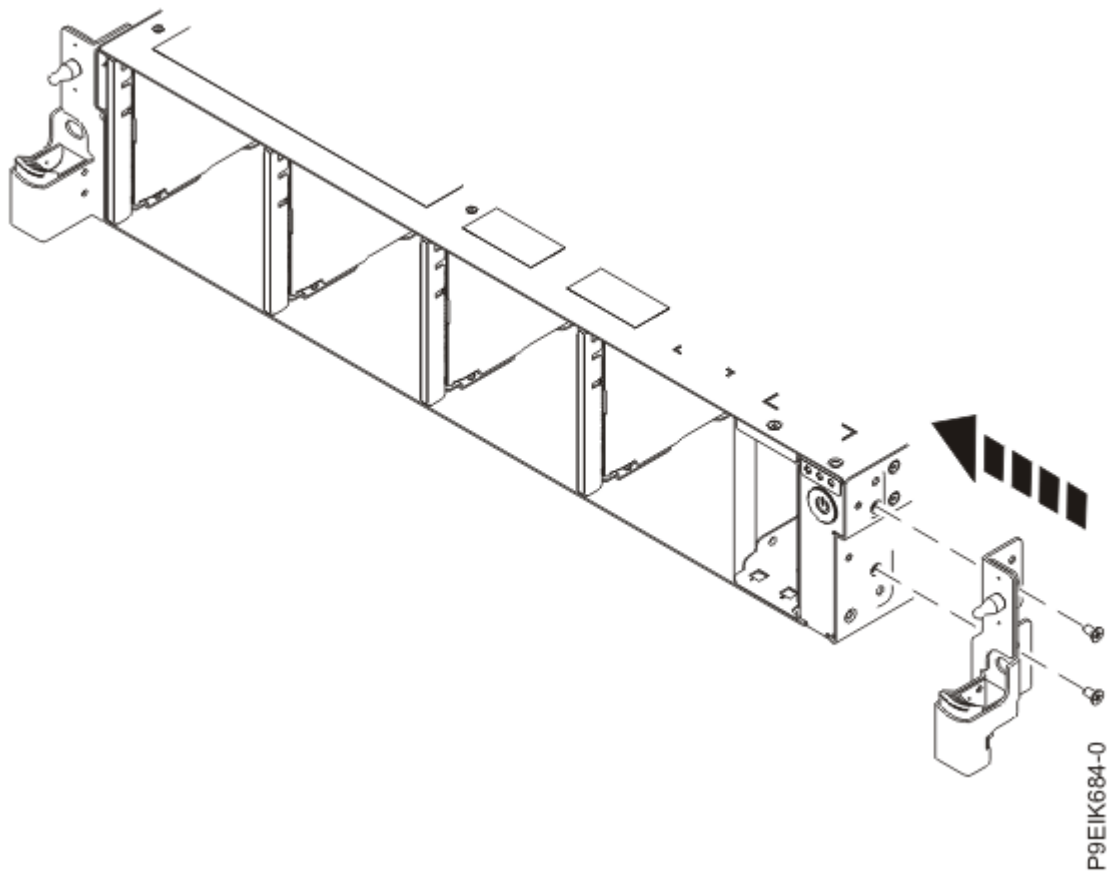

Figure 109. Replacing the rack installation support
6. Replace the rack installation support on the side of the system as shown in Figure 109 on page 123.